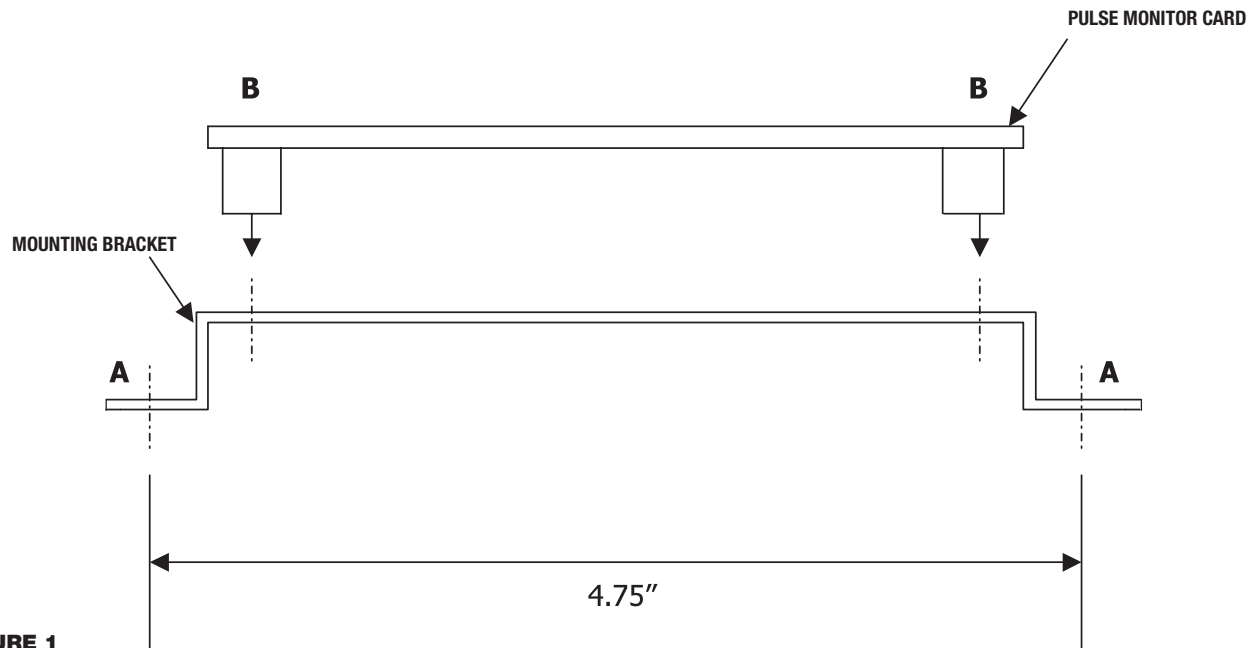

FIGURE 1
1. Locate available space in control enclosure to fit the required 3" X 5-1/4" X 2-1/2" envelope. Use a #19 drill bit (ϕ .166") and drill two holes 4.75" +/- .02" apart. Attach the mounting bracket using (2) #10-24 X 1/4" self-tapping screws at reference points **A**. See Figure 1.
2. Attach Pulse monitor card to mounting bracket using (4) #6-32 X 5/8" self-tapping screws at reference points **B**. See Figure 1.